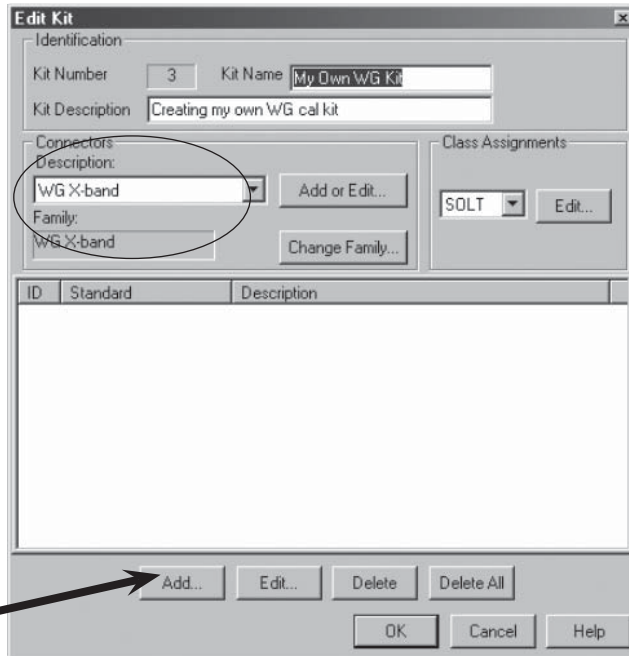

Figure 29. Completed connector description, and start adding standards.
- Click **OK**. This returns to the “Edit Kit” page (name of the page is shown on the upper-left corner of the dialog box). Click “Add” to start adding standards (Figure 29).